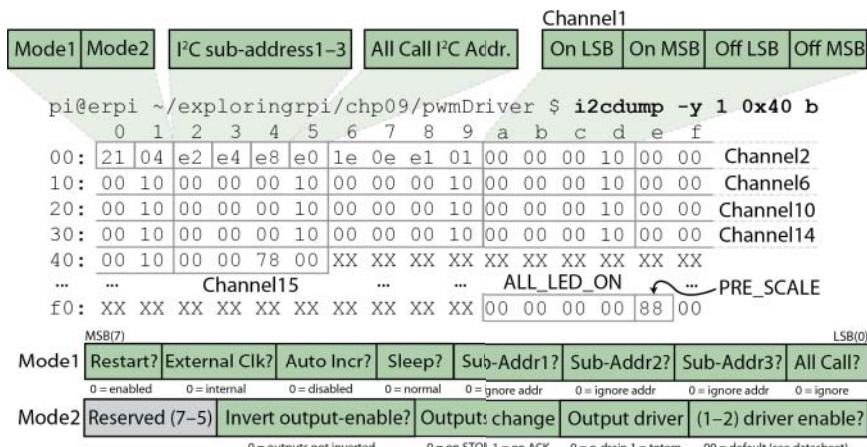

Figure 9-10: Registers for the PCA9685 16-channel 12-bit PWM controller
the possibility of controlling up to 992 servo motors using a single bus on the RPi! Figure 9-10 captures the output that results from a call to `i2cdump` on the device address, which is at I²C bus address 0x40 by default.
Figure 9-10 also illustrates the registers that can be used to control the output of the PCA9685. There are two mode registers (0x00 and 0x01) that control the behavior of the device, using bit patterns that are described at the bottom of Figure 9-10. The mode registers are followed by four address registers (0x02–0x05), which if enabled by Mode1 allow multiple PCA9685 modules to respond to a single “virtual” I²C address, because if they were a single device. For example, you could potentially control all the servos that are attached to Channel0 on multiple modules using a single call to a single sub-address that is enabled on each of the boards. Writing to the All Call I²C address (0x70) affects all the modules on the bus unless they have set the Mode1 bit so as to ignore write requests to the All Call address.
You may also need to set the Mode1 state to enable the outputs (see the bottom of Figure 9-10). For example, to set Mode1 to disable restart (1), use the internal clock (0), enable auto increment (1), disable sleep (0), disable all sub-addresses (000), and enable All Call (1), the 0x00 register should be set to 10100001, which is 0xA1 in hexadecimal:
This code performs the same function as was just performed manually using the Linux i2c-tools calls. Rather than maintain a full list of registers, the code offsets the address by four times the desired output number. For example, to set the “turn on” LSB for Channel5, the calculation is $LED0_ON_L + (5 \times 4) = 0x06 + 20_{10} = 0x1A$. You can confirm this result in Figure 9-10 by locating the first register address of Channel5.